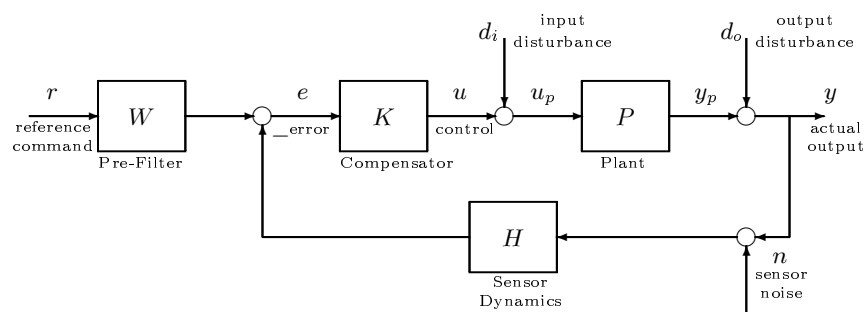

Figure 1: Standard Negative Feedback System with Pre-Filter
Design Procedure: Use the standard negative feedback system we have been considering - with controller K and reference command pre-filter W (i.e. use Figure 1 with $H = 1$). First design the controller K . You will need an integrator to satisfy (2). You will need a zero to satisfy (1) and (2) - think root locus folks. What do zeros do the root locus? (3) and (4) tell you where your closed loop poles should be - real part and damping factor ζ , respectively. You need to recall basic knowledge about second order systems. To satisfy (4) you will need a pre-filter - once again, you need to recall basic knowledge about second order systems. Without a pre-filter, the closed loop system will exhibit undesirably large overshoot due to the zero in the compensator K .